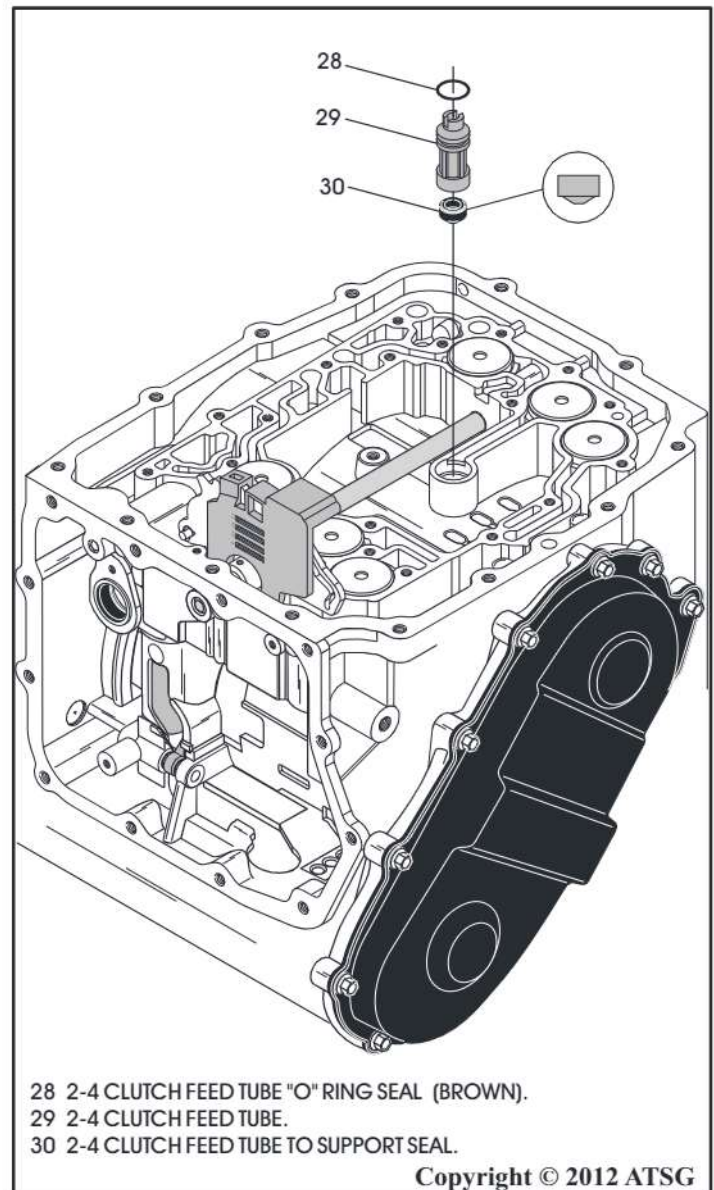

Figure 274
78. Install new 2-4 clutch feed tube to support seal, **exactly** as shown in Figure 274.
79. Lube and install new "O" ring seal on 2-4 clutch feed tube, as shown in Figure 274.
80. Install the 2-4 clutch feed tube assembly into the case bore, **exactly** as shown in Figure 274.